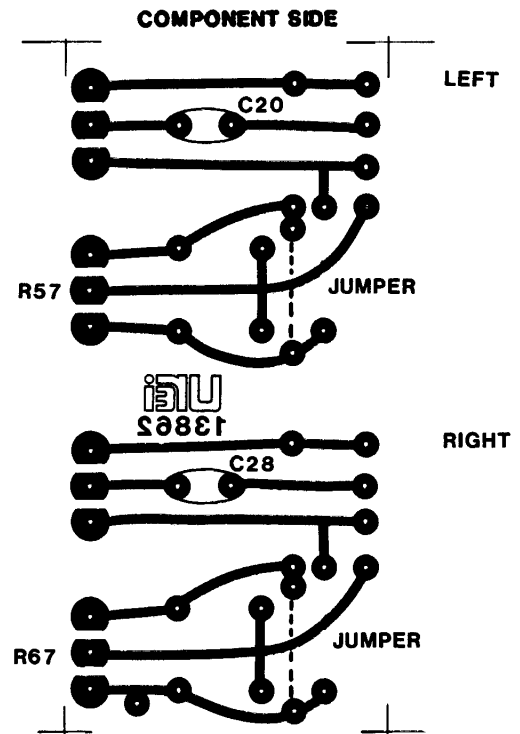

FIGURE 4-3. Tone Control Board
- 3) Remove the two 820 pF capacitors (C20 and C28) from the circuit board (refer to Fig. 4-3.) Removal of these capacitors will disable the high frequency sections of the equalizers.
- 5) Solder the jumpers onto the circuit board, bypassing potentiometers R57 and R67 (refer to Fig. 4-3). These jumpers disable the low frequency sections.